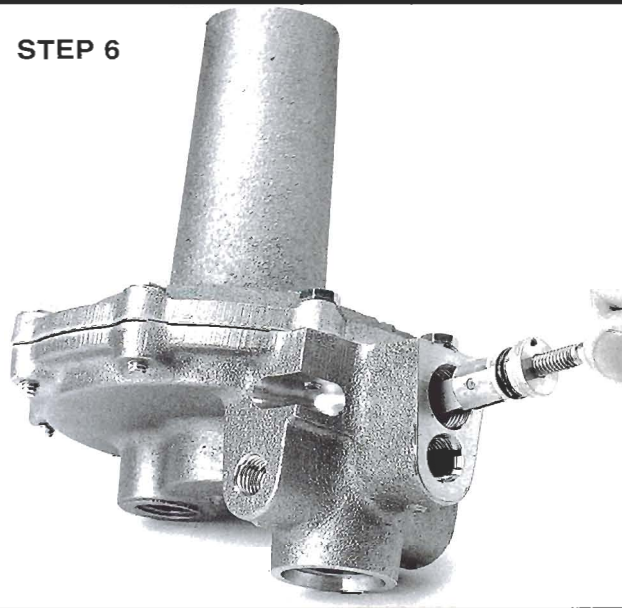

Figure 21. Pull the Pivot & Lever Assembly out of the Pilot Body.
6. Screw a 5/16-18 UNC bolt into the Pivot and pull the Pivot & Lever assembly out of the Pilot Body (refer to Figure 21).